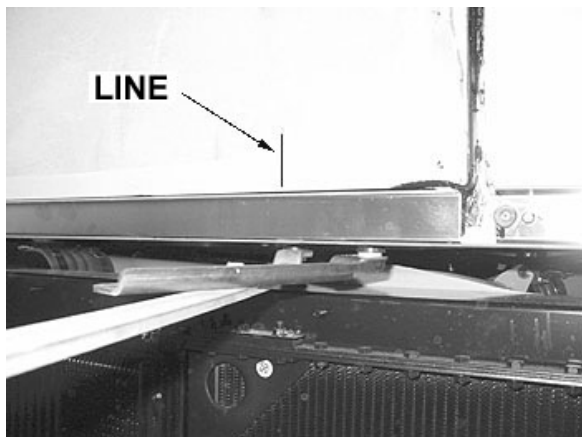

FIGURE 62: REFERENCE LINE
2. Using a rubber mallet, adjust the lower part of pantograph arm in order to get 4 ± 1 mm between lateral panel and engine door (Refer to Figure 62 and Figure 63).